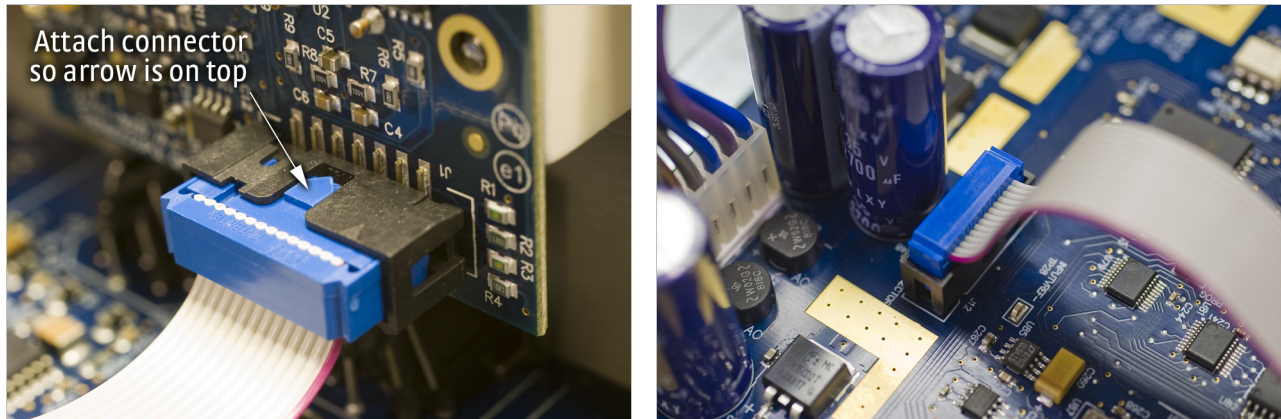

FIGURE 7-4 *Proper orientation of the ribbon cable connector plug*
8. Place the option card into its position in the rear panel from inside the instrument. Orient the card so that the 14-pin ribbon cable connector is toward the bottom of the instrument, closest to the main circuit board (FIGURE 7-4).
12. *This step is not applicable to the 3062 option card.* Insert the 14-pin ribbon cable connector plug into the socket on the option board. Orient the ribbon cable connector plug so that the arrow nub slides into the plug slot, and the ribbon cable exits downward (FIGURE 7-4).